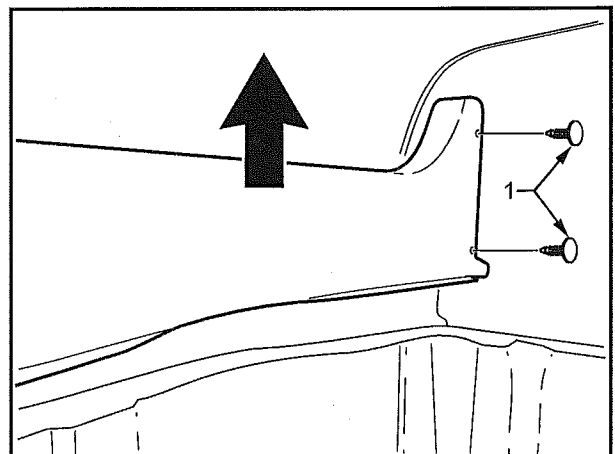

FIGURE 1
2. Use a trim release tool to remove the fir tree clips (1) (2 each end) at the ends of the rear trim panel inside the luggage compartment. Remove the rear trim panel by pulling upwards and place to one side. Refer to Figure 1.